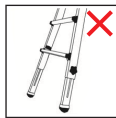

Fig. 49
- Never use the leveler to extend the total ladder length. The leveler is only a leveler! (Fig. 49)